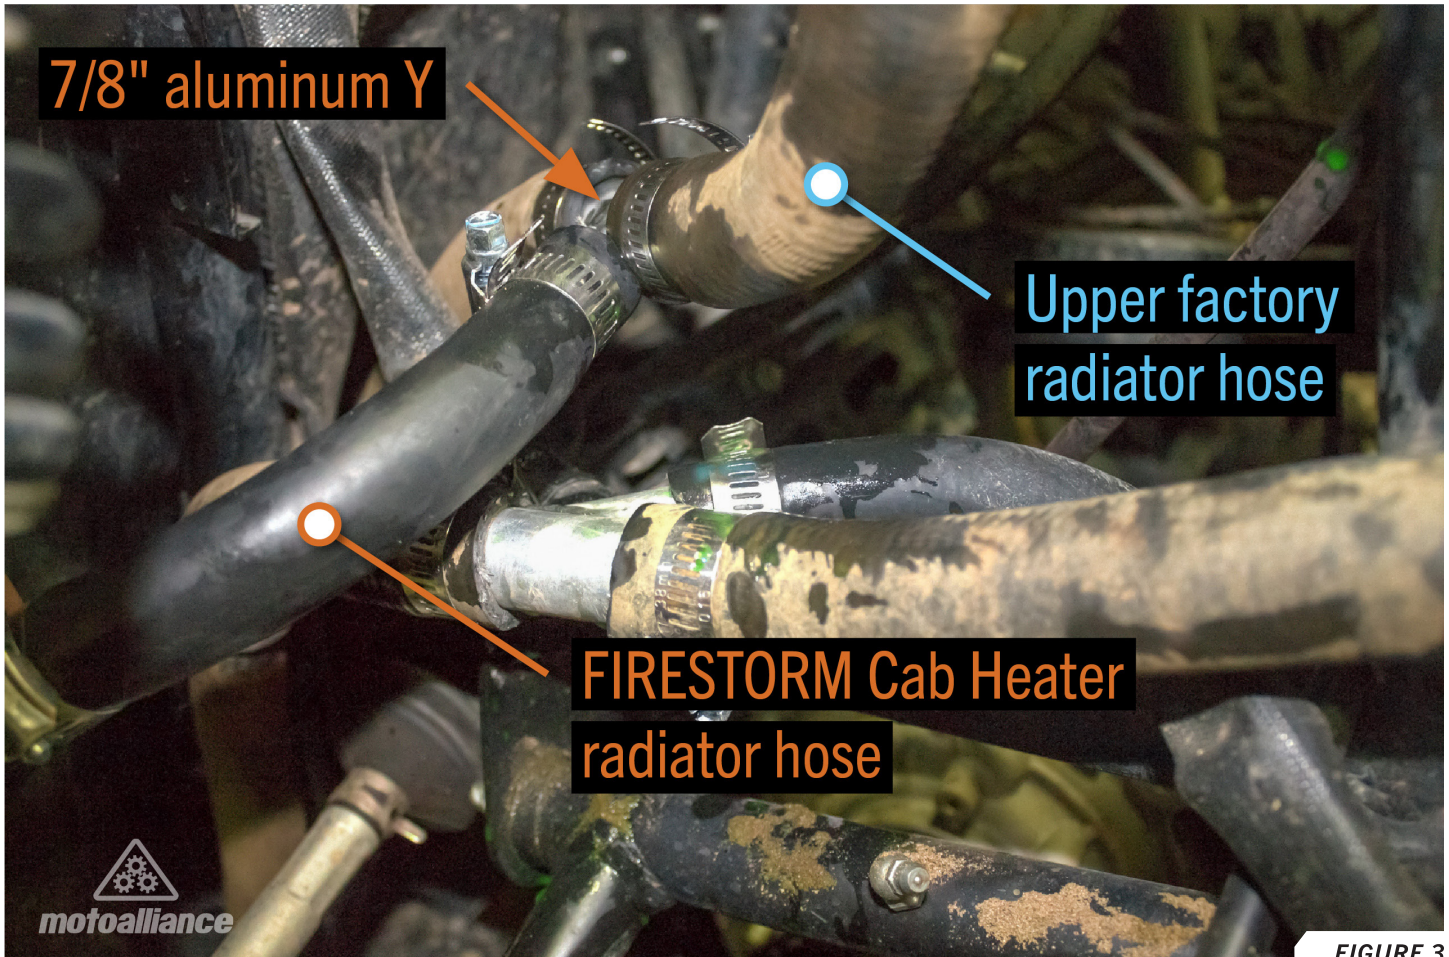

FIGURE 3
14. Locate a flat, level section on the upper factory radiator hose for the $\frac{7}{8}$ " aluminum Y. Cut the hose and insert the Y with the branch facing the front of the machine. Secure using #16 hose clamps. **FIGURE 3**
15. Run one of the 5' radiator hose sections to the branch of the aluminum Y, cut any excess hose, and secure using a #10 hose clamp. **FIGURE 3**